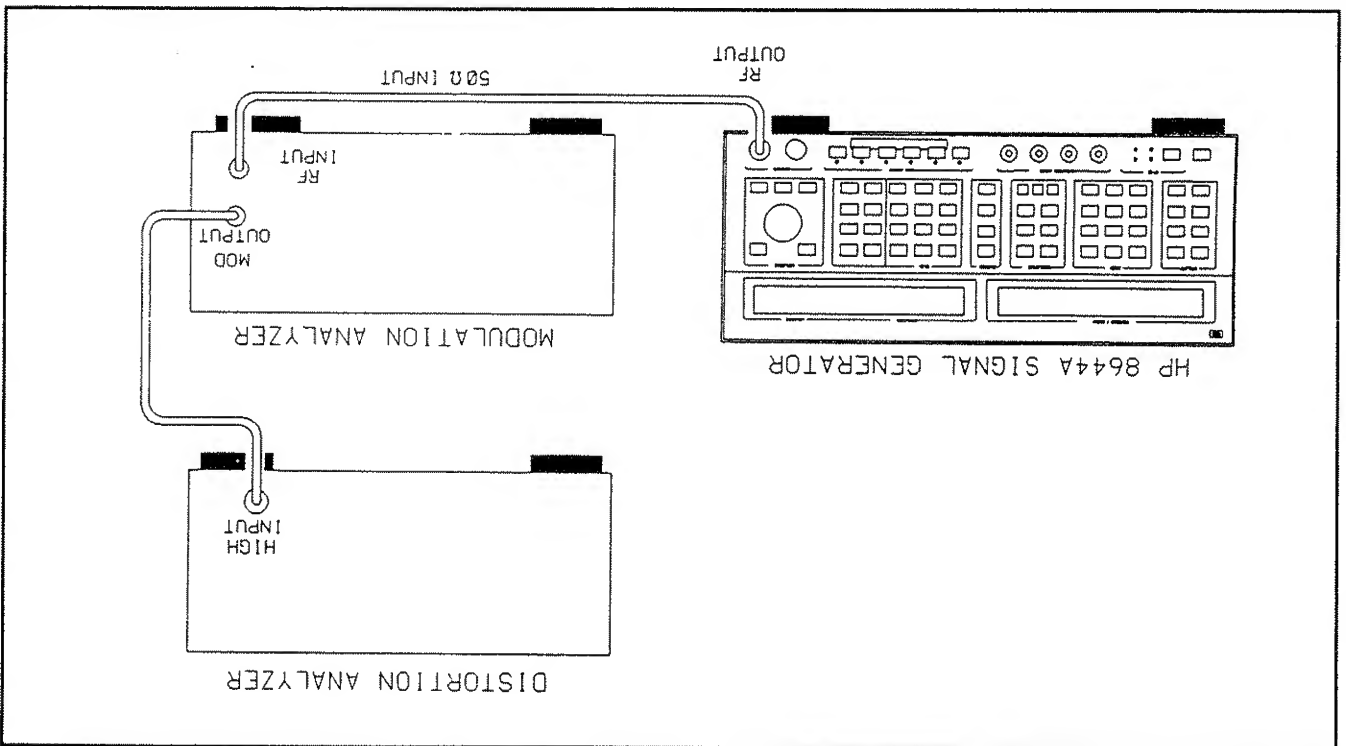

Figure 3-16. AM Test Setup 1
1. Connect the equipment as shown in figure 3-16.